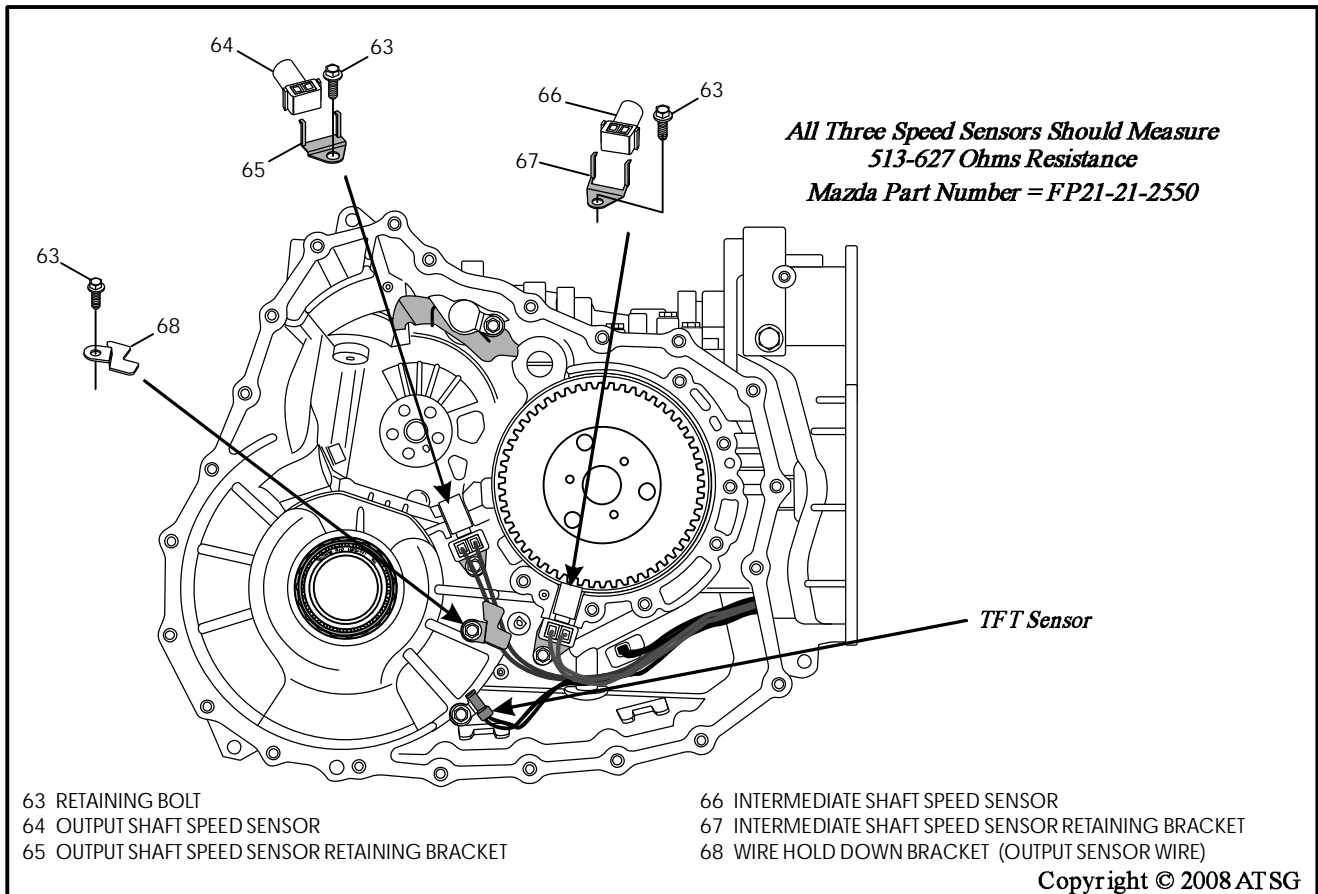

Figure 214
1. Turn the transaxle case over and set it on end cover so front is facing up (See Figure 214).
2. Install the output shaft speed sensor, as shown in Figure 214, and torque the retaining bolt to 9 N·m (80 in.lb.).
3. Install the intermediate speed sensor, as shown in Figure 214, and torque the retaining bolt to 9N·m (80 in.lb.).
4. Install the wire harness retaining bracket (68), as shown in Figure 214, and torque retaining bolt to 9 N·m (80 in.lb.).
5. Install the TFT. sensor, as shown in Figure 214, and torque bolt to 9 N·m (80 in.lb.).